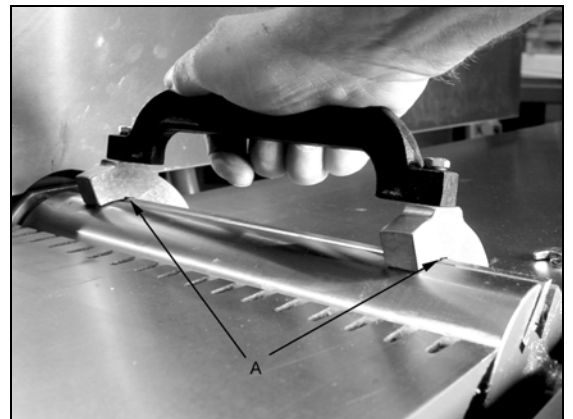

Figure 9
7. Next use the supplied knife guage as shown to carefully push down on the knife until it is position as shown in Figure 9. Make sure the knife makes contact within the indent as shown by 'A' in Figure 9.